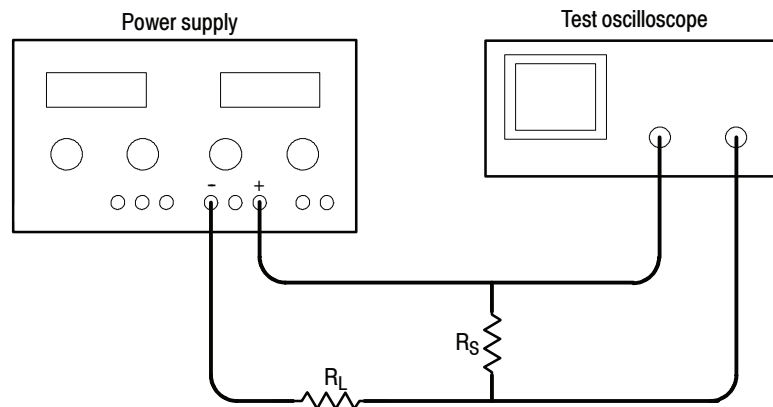

Figure 3: Constant current ripple and noise test setup
4. Connect the test oscilloscope and load resistors to the + and - terminals of the MASTER output as shown in Figure 3. See Table 8 for the appropriate load resistor values.
4. Connect the test oscilloscope and load resistors to the + and - terminals of the SLAVE output as shown in Figure 3. See Table 8 for the appropriate load resistor values.